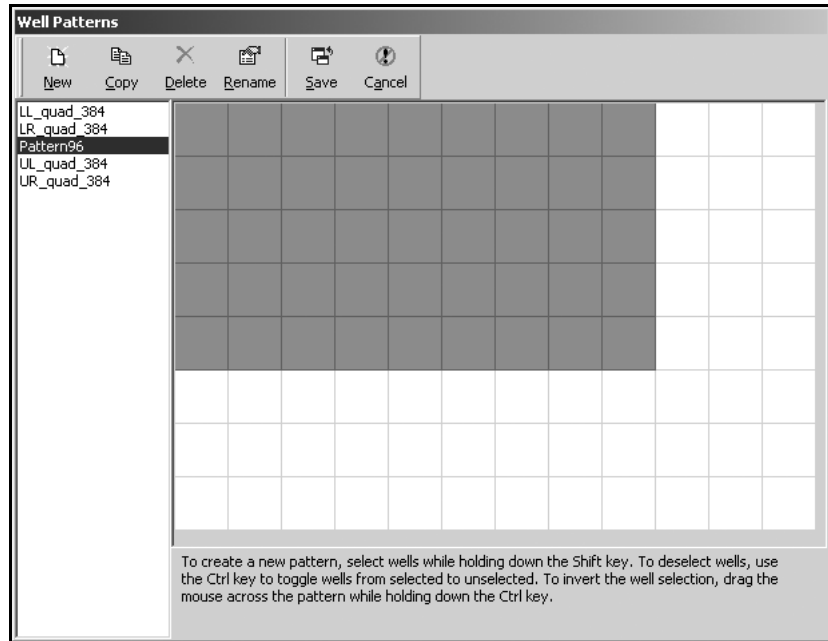

Figure 3-9. Wells chosen for the new pattern
4. While holding down the **Shift** key, select the wells for the new pattern so it looks like Figure 3-9.